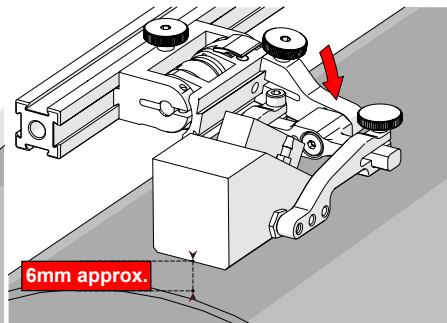

Fig. 204 - Lower to scanning surface
2. Push the probe holder yoke down toward inspection surface until the wedge is approximately 6 mm ( $\frac{1}{4}$  in) above the inspection surface (Fig. 204).